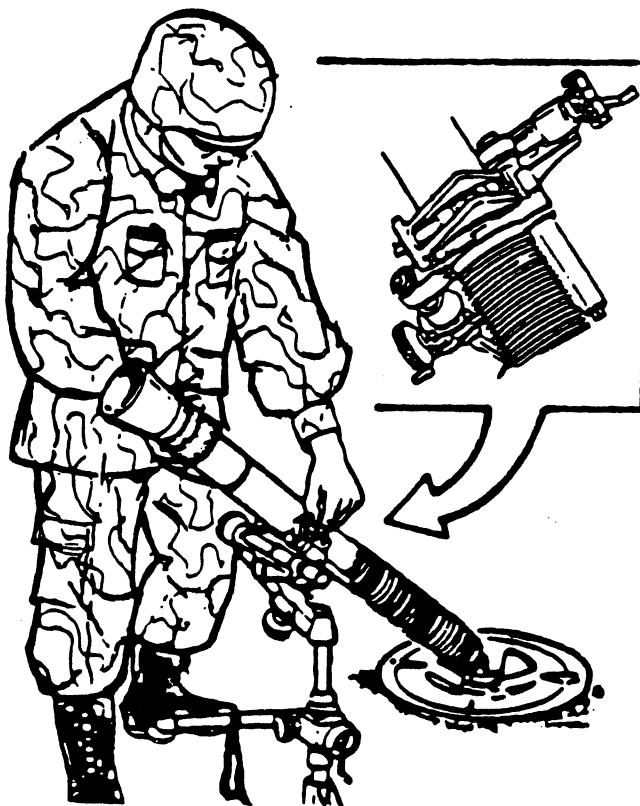

Fig 5-1. Gunner unlocking barrel clamp.
c. After the barrel is cool, the gunner removes the sight and removes the firing pin. This ensures that the mortar does not fire should the round slip down the barrel while performing the misfire procedures. The gunner may depress the barrel, if necessary, to provide easier access to the firing pin. The gunner unlocks the barrel clamp (fig 5-1), the A-gunner rotates the barrel 90 degrees to unlock it from the baseplate and the gunner relocks the clamp assembly.